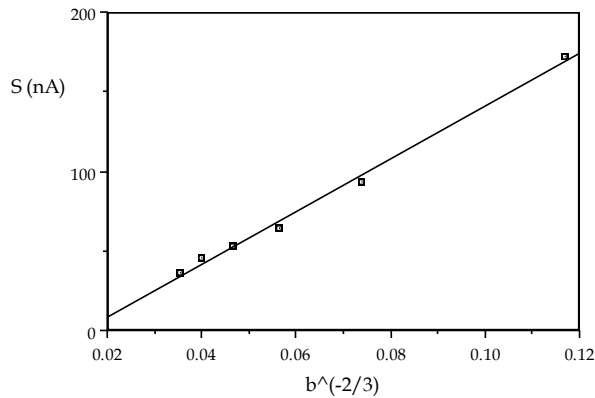

Fig. 5. Peak height versus spacer thickness to the power  $-2/3$ .
Several authors have described the relation between the layer thickness (i.e. spacer thickness) in a thin layer flow cell and the measured current (S) as  $S = k b^{-2/3}$  where b is the spacer thickness and k a constant. Also for the VT-03 flow cell the relation between S and  $b^{-2/3}$  results in a straight line (Fig. 5).